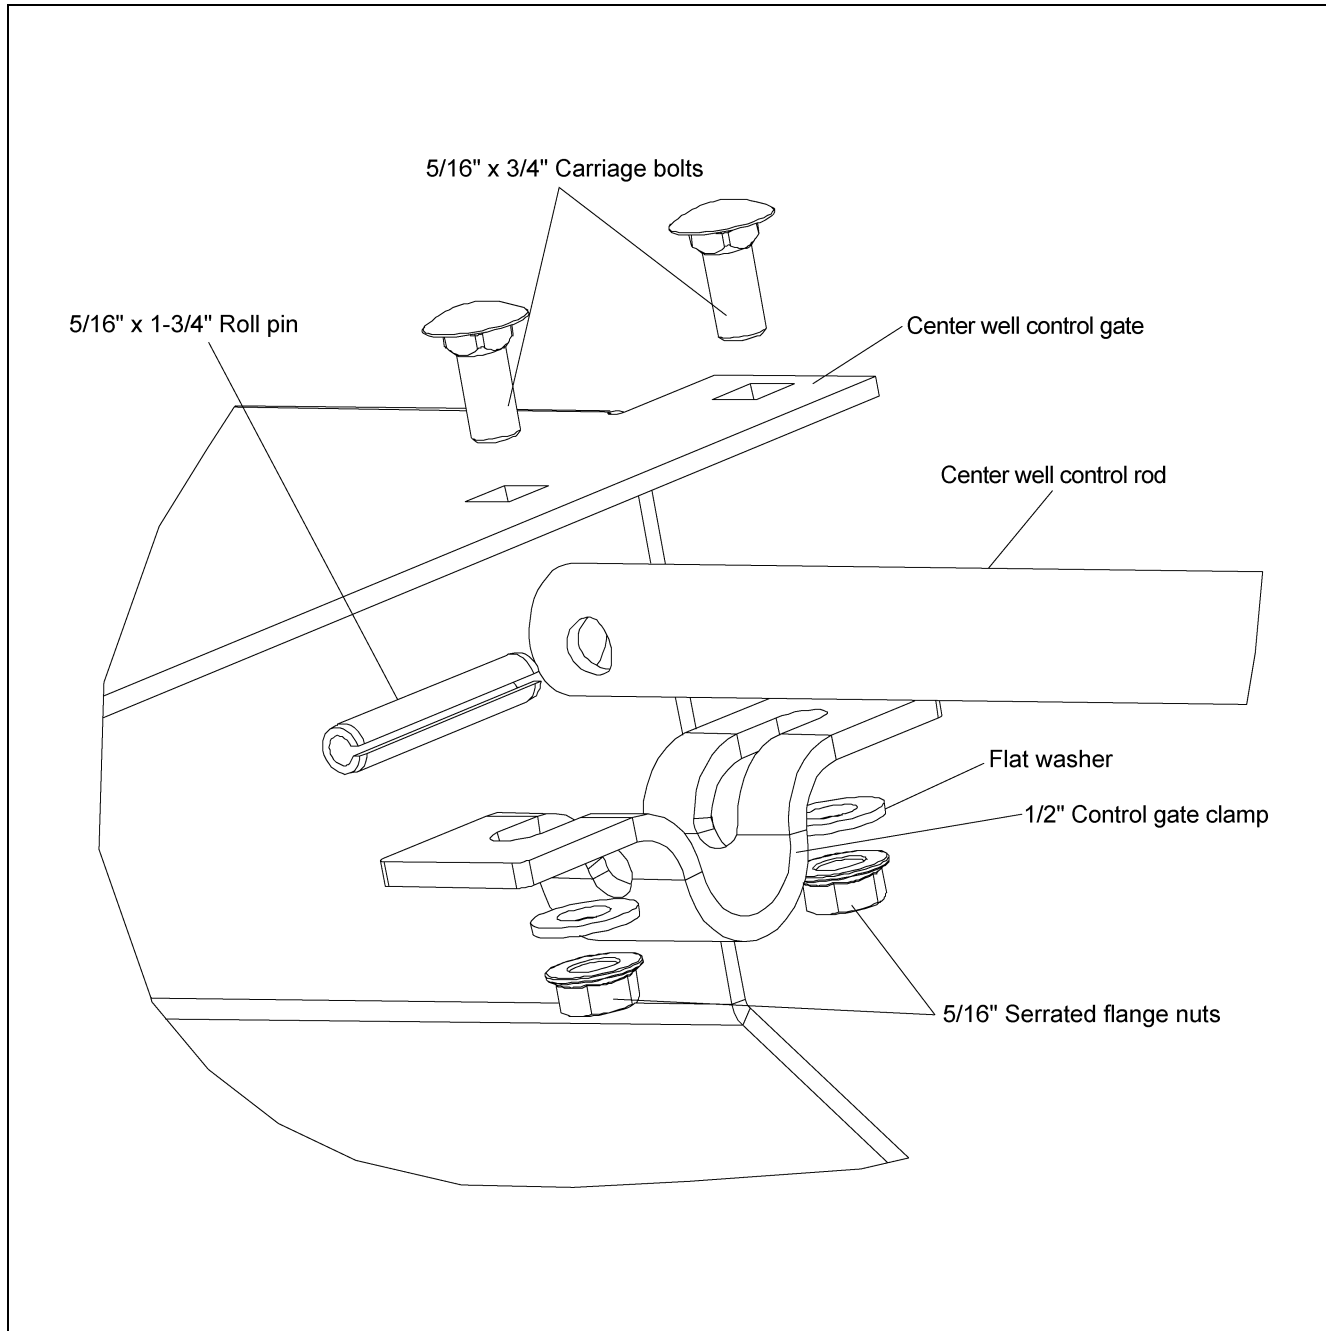

Figure 4N
4. Fasten clamp to bottom side of control gate by using two (2) $5/16"$ x $3/4"$ long carriage bolts, flat washers and serrated flange nuts. (See Figure 4N.)